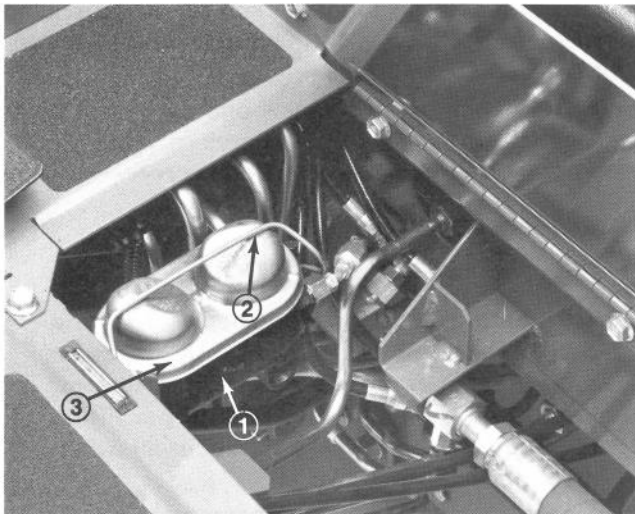

Figure 52
2. Snap cover bail off cover and remove cover from master cylinder (Fig. 52).